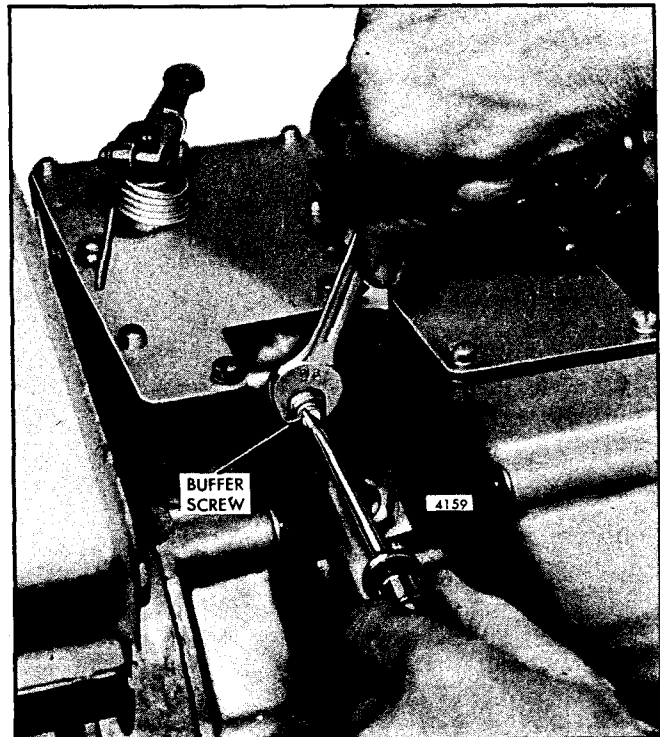

Fig. 8 - Adjusting Buffer Screw
1. With the engine running at normal operating temperature, turn the buffer screw "in" (Fig. 8) so that it contacts the differential lever as lightly as possible and still eliminates engine roll.